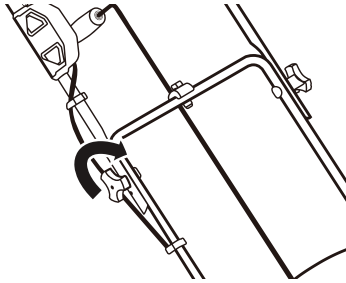

Fig. 5
3. Turn the locking knob clockwise to tighten. Do not over tighten. (See Fig. 5)